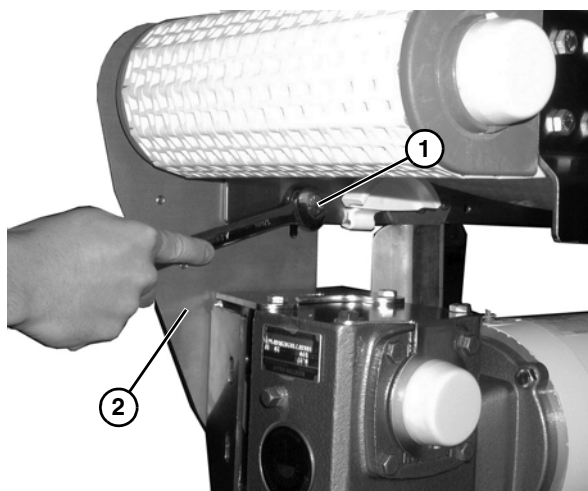

Figure 7
5. Insert bolt (**Figure 7, item 1**) through backside of conveyor into threaded hole in mounting bracket (**Figure 7, item 2**).